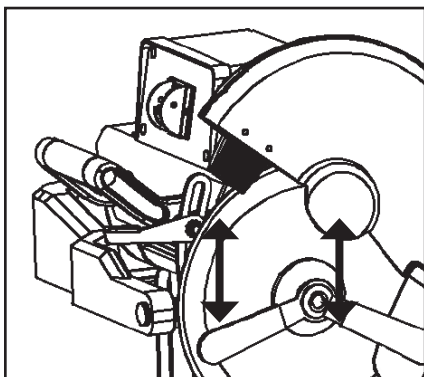

FIGURE 10
STEP 3: Hold the *blade lock nut* with the provided 23 mm wrench and also hold the *blade shaft* with the other provided 10 mm wrench. At the same time, move the wrenches upward to loosen or downward to tighten (FIGURE 10) in order to open and close the *blade shaft nut* and *outer flange*. Then, attach and secure the blade onto the blade shaft, keeping the *inner flange* in place. Place the blade between the two water tubes in the back of the *blade guard*.